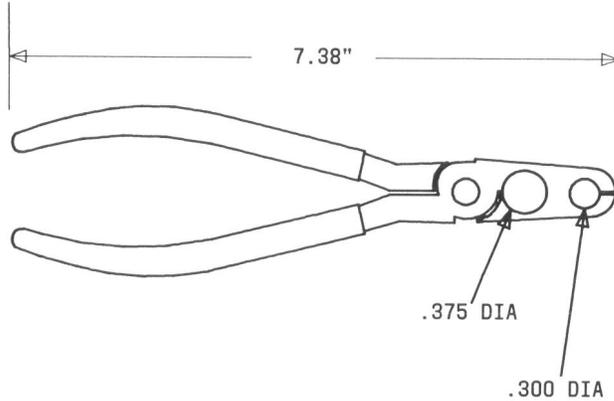

Fig. 16—KS-21874 Staking Pliers
2.16 KS-21874: The KS-21874 tools are staking pliers (Fig. 16) used in staking bushings permanently in plug shells.